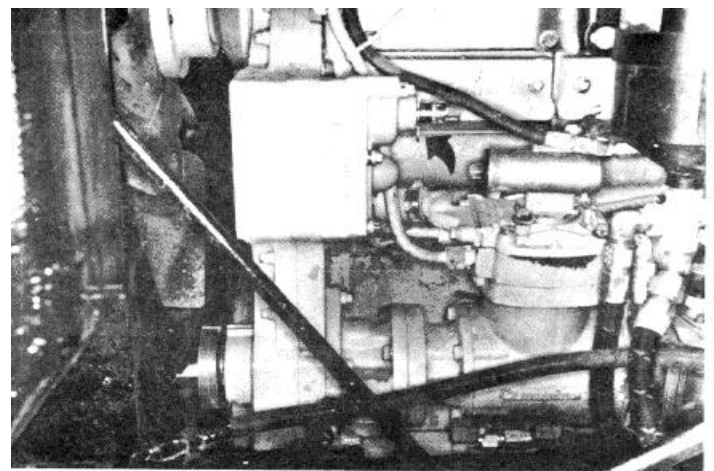

Fig. 2-51, (KI1919) Engine barring arrangement- KT(A)-1150
**Note:** Do not use the fan to rotate the engine. Remove the shaft retainer key. Fig. 2-51, and press the shaft inward until the barring gear engages the drive gear; then advance. After the adjustments are complete retract the shaft and install the retainer key into the safety lock groove.